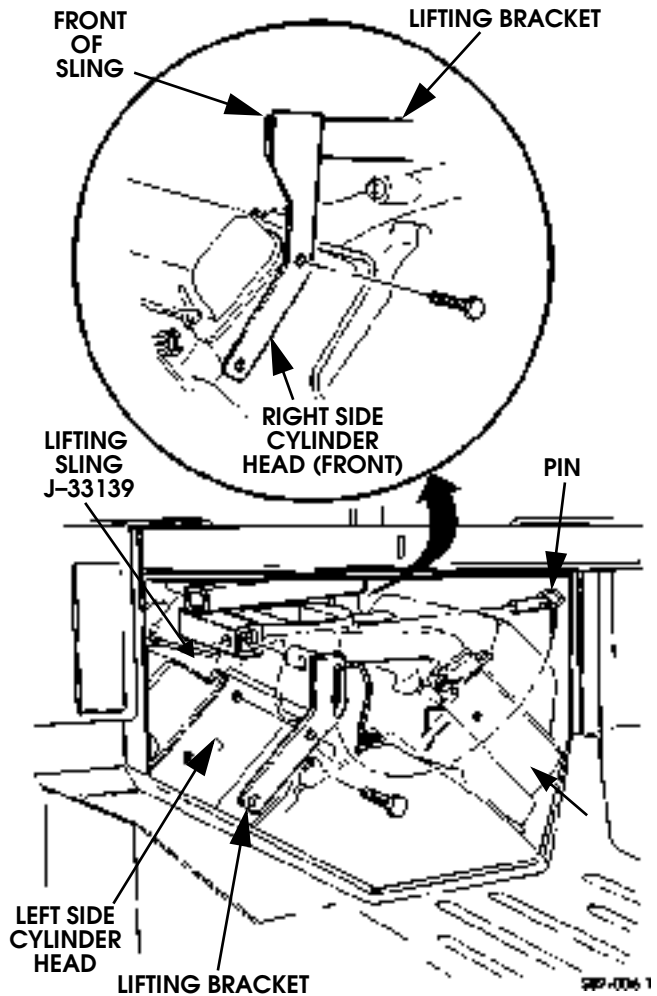

Figure 2-59: Lifting Bracket to Cylinder Head Attachment
- 44. Attach lifting sling to engine (Figure 2-59).